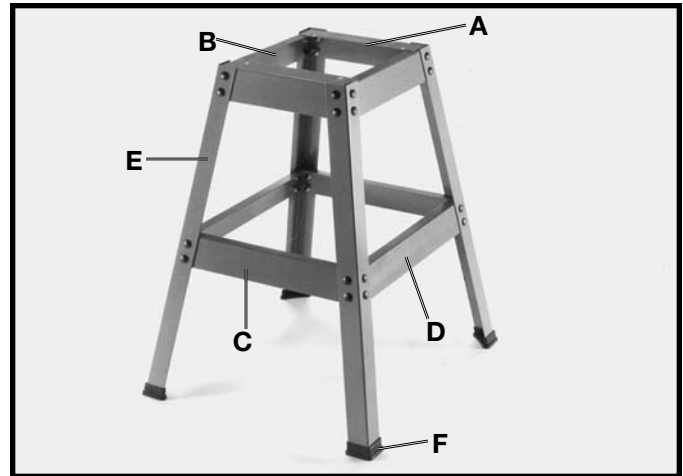

Fig. 4
1. Assemble the stand, as shown in Fig. 4, using the 32 M8x20mm Carriage head screws, 3/8" flat washers and M8 hex nuts supplied. The two 10-3/4" long upper braces (A); 13-9/16" long upper braces (B); 15-3/4" long lower braces (C); and 18-5/16" long lower braces (D) should be fastened to the four legs (E). Insert the carriage bolts through the legs and braces, place flat washer on carriage bolt and secure with nut. **IMPORTANT: The top lips of the two upper braces (A) should be on top of the top lips of upper braces (B).**
2. Assemble the four feet (F) Fig. 4, to bottom of each leg (E), as shown.